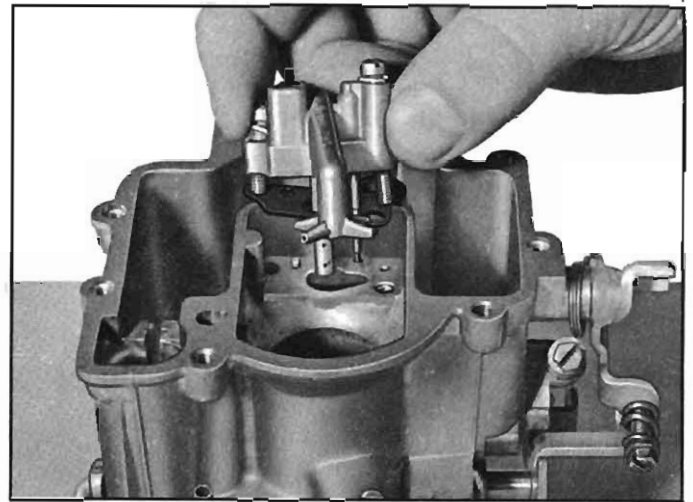

Fig. 9-18—Removing Venturi Cluster
10. Remove the two screws and lockwashers attaching venturi cluster to the bowl assembly and lift out the cluster, gasket and main well insert, (fig. 9-18).